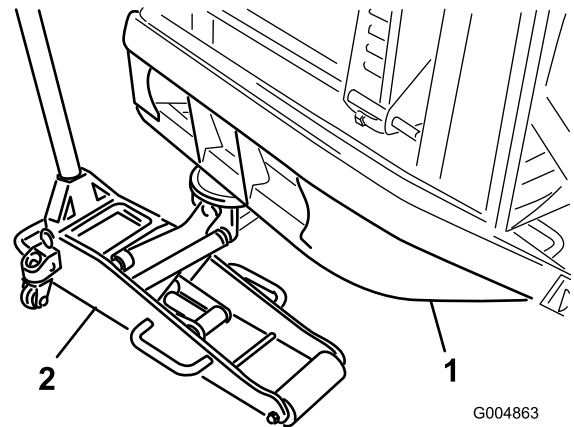

Figure 30
1. Position a suitable floor jack under the rear bumper tube, raise the rear of the machine and support with jack stands (Figure 30).